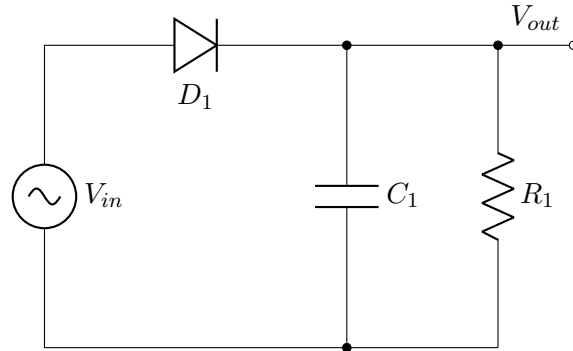

Figure 2: Simple peak detector circuit
A simple peak detector circuit is a modification of a half-wave rectifier where a capacitor is added after the diode as shown in figure 2
2. Simple peak detector: Add a $100\mu F$ capacitor as shown in figure 2 and: